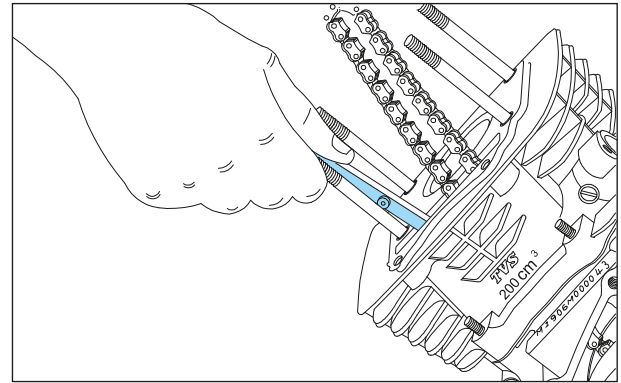

Fig. 3.148
- Insert the guide cam chain on cylinder block complete and ensure its proper seating in the groove on cylinder block. (Fig. 3.148)